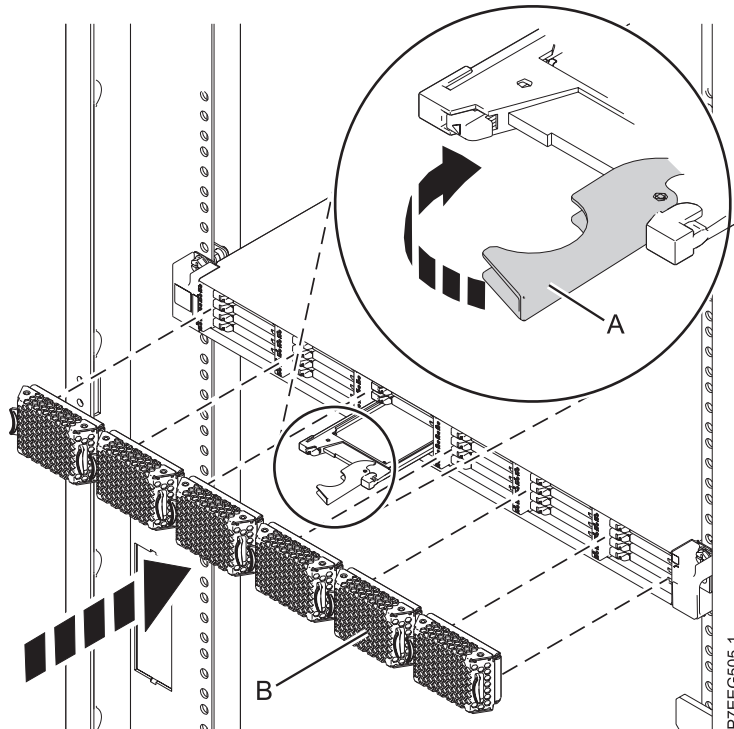

Figure 25. Replacing a solid-state drive in the 58/88 PCIe storage enclosure.
3. Rotate the handle (A) to the locked position, as shown in Figure 25 on page 43.
4. Install the bezel (B).